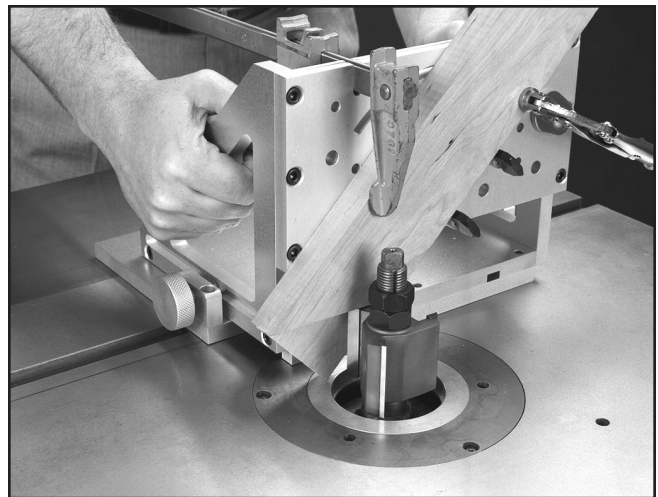

Figure 9. Angled clamping for miter joint set-up.
2. There are slots milled into the top edge of the face plate to accept bar type clamps (not included). Figure 9.